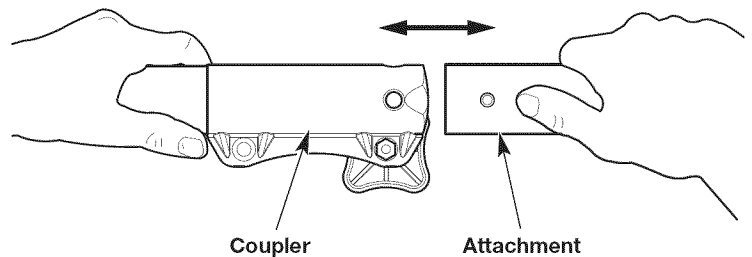
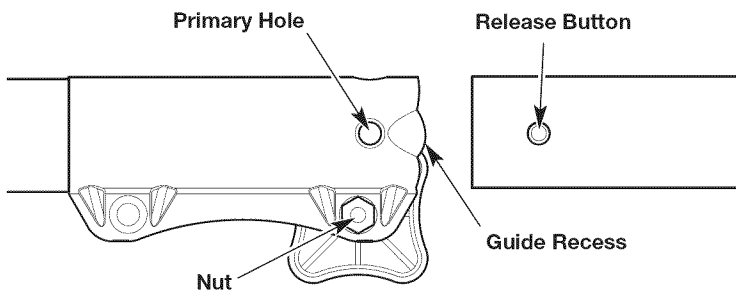

Fig. 3
Fig. 5
4. Align the release button with the guide recess (Fig. 5).
5. Push the attachment straight into the coupler (Fig. 3) until the release button snaps firmly into the primary hole (Fig. 5).
NOTE: Do not tighten the nut (Fig. 5).
3. Press and hold the release button (Fig. 5).
4. Pull the attachment straight out of the coupler (Fig. 3).